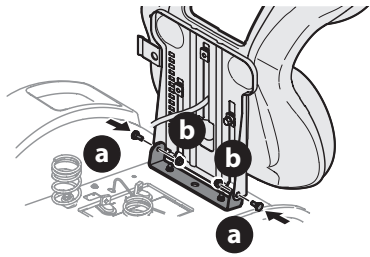

Fig. 3
4. With the previously removed shoulder bolts (a) and flange lock nuts (b) secure one side of the seat and seat bracket. While supporting the seat, remove the Phillips screwdriver and secure the other side of the seat. Be careful not to crimp or damage the wire harness while installing the seat (Fig. 3). Torque to 84-103 in-lbs (9-12 N-m).